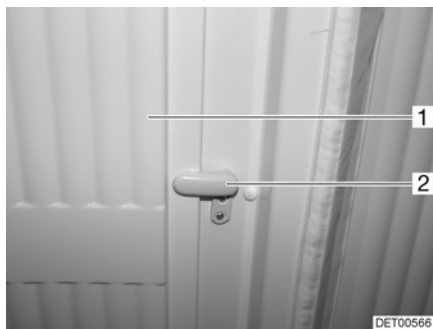

Fig. 112 Lock, toilet compartment panelling
- Put the latch (Fig. 112,2) in an upright position and unfold the inner part (Fig. 112,1) of the toilet compartment panelling.
- Fold up the inner part (Fig. 112,1) of the toilet compartment panelling and turn the latch (Fig. 112,2) to a horizontal position.